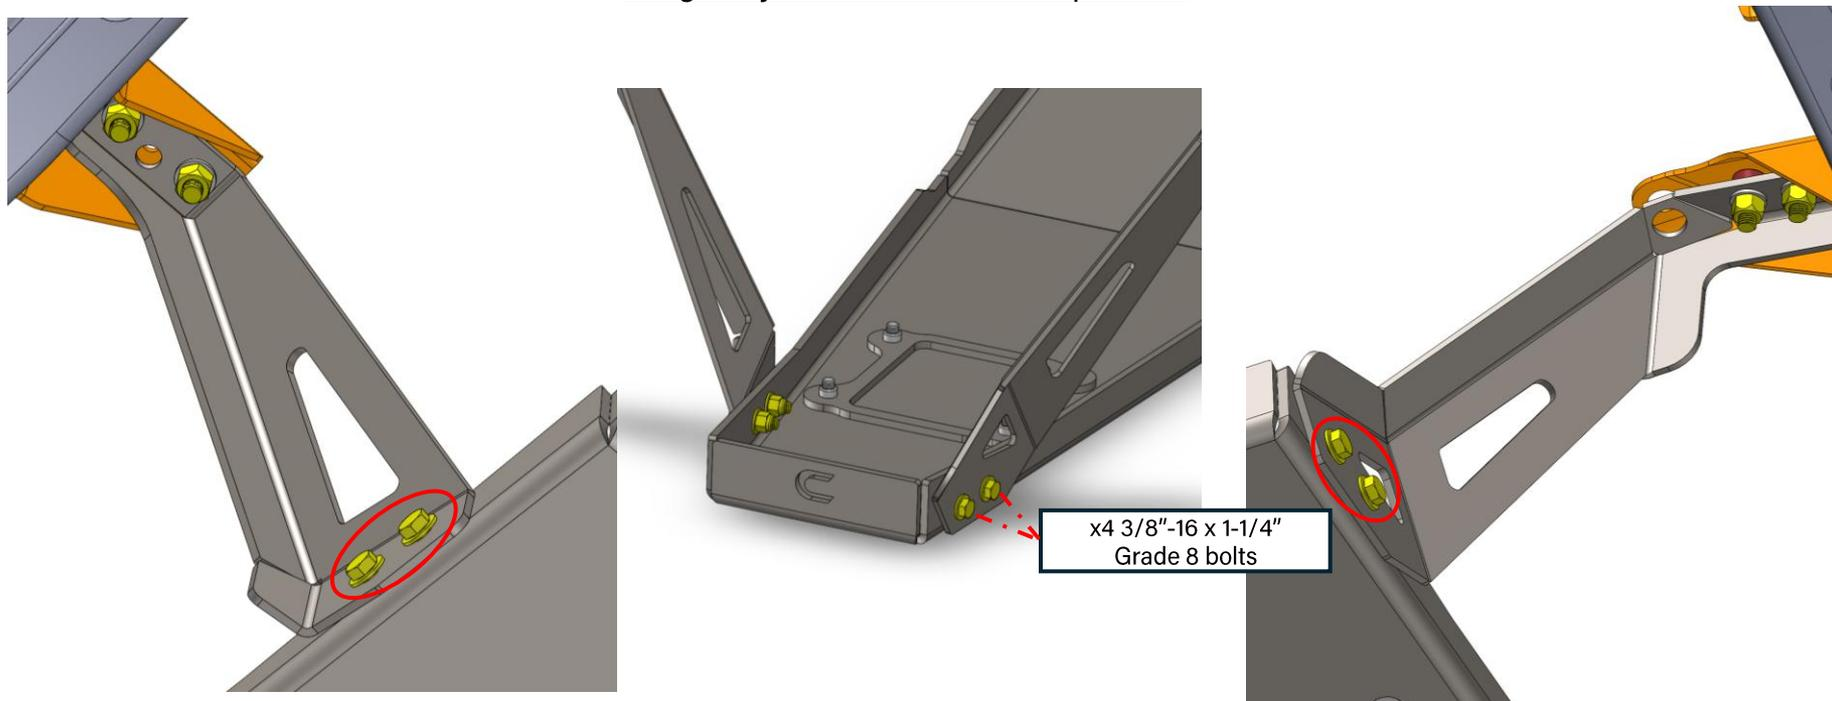

Figure 10: New skid plate installed at OEM 3.6L motor mount locations and skid plate connections
9. Move to the front of the skid plate to install the remaining hardware. Install the x4 longer 3/8"-16 bolts through the holes on the engine skid plate brackets and feed them through the skid plate. **Use x2 washers for each bolt**, as seen below in Figure 10. **Loosely** fasten the bolts in the inside of the skid plate with the provided lock nuts.